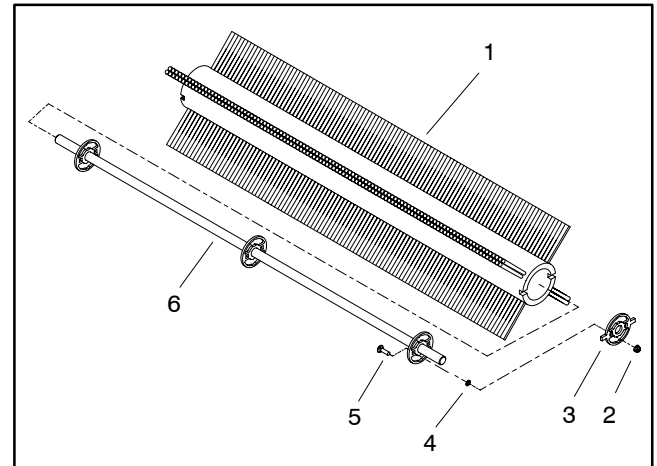

Figure 6
8. Disassemble brush using Figure 6 as a guide.
1. Assemble brush using Figure 6 as a guide.
6. Secure bearing flanges to brush housing with carriage bolts (item 7), flat washers (item 16) and lock nuts (item 17). Center brush in brush housing.